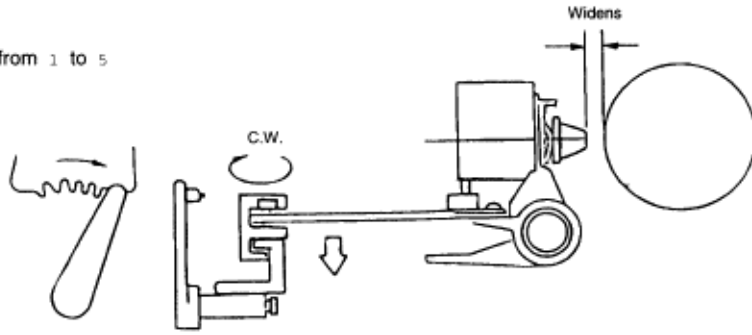

Figure 2-5
2.2.3 Head Gap Adjusting (See Figure 2-5 below).